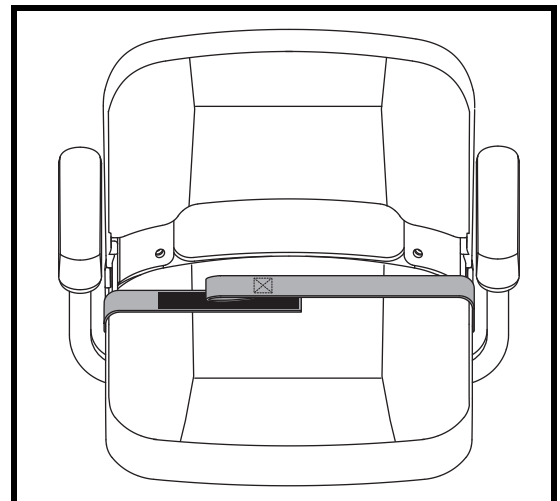

Figure 23. Positioning Belt - Reusable Hook and Loop Fastener Style
1. Align the two sides of the belt placing the looped-end side directly above the coarser side (“hook”) of the opposite belt. Press firmly together to fasten. See figure 23.